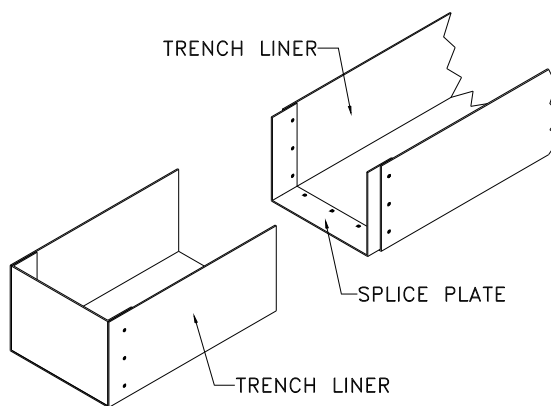

Figure 12
**STEP 3.** Place a mating section of the liner into its assembled position relative to the liner section already put into place (see Figure 12).